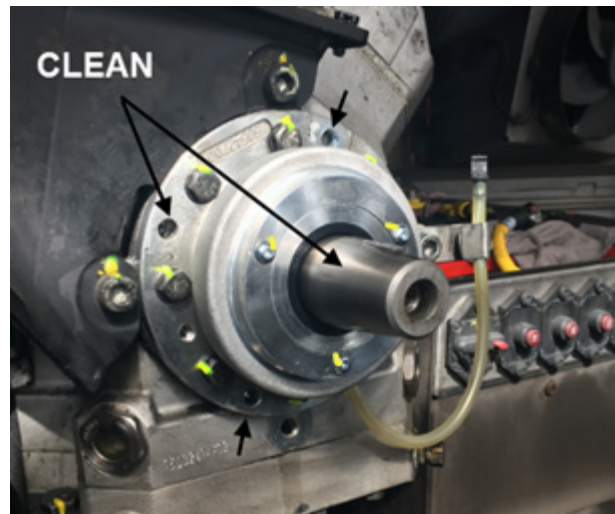

FIGURE 44: CLEANED AREA
1. Make sure that the compressor shaft and the coil mounting flange are clean (free from grease or dirt) (figure 44).